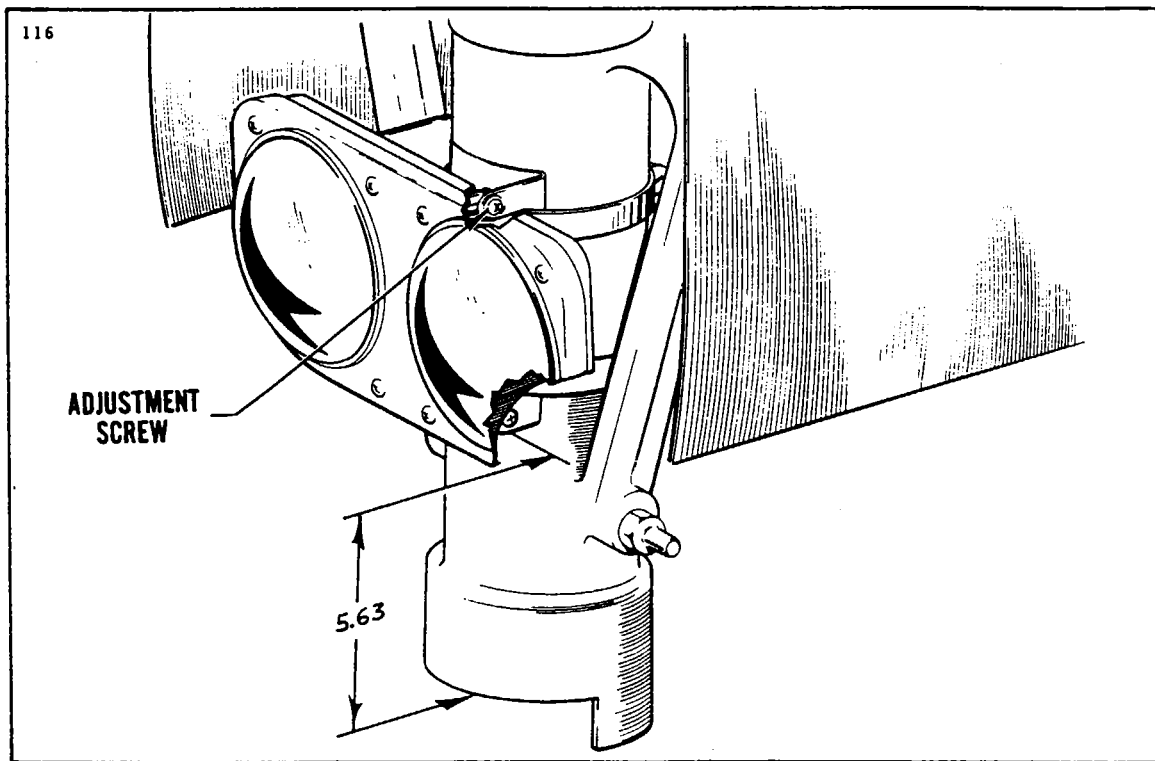

Figure 11-46. Landing Light
11-108. REMOVAL OF LANDING LIGHT. (Refer to Figure 11-46.)
b. To install the landing light assembly, position the assembly against the strut housing with the bottom of the mounting bracket 5.63 inches up from the bottom of the housing. (Refer to Figure 11-46.) Align the bracket longitudinally and secure with clamps. The light beam angle may be adjusted by the adjustment screws at the sides of the bracket and tilting as desired.